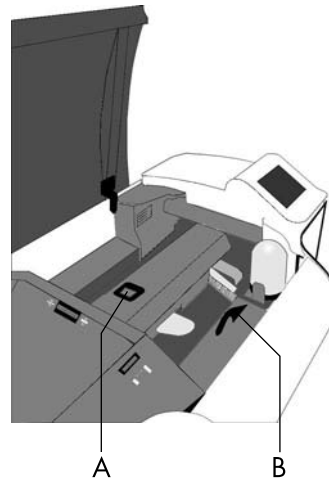

Fig. 32
- lift the loc by pulling the release handle A of the loc (see Fig. 32).